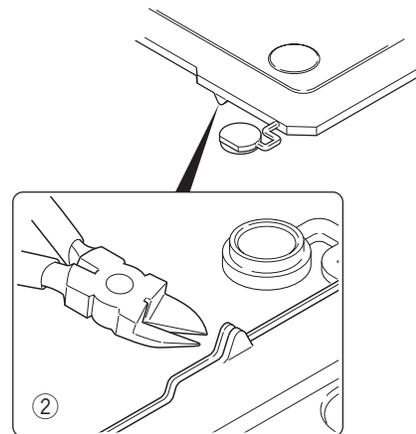

Fig. 6-3
Note : If the GPS receiver is installed, cut the base of the top packing with a pair of nippers, or similar tool. (Fig. 6-3 ②)